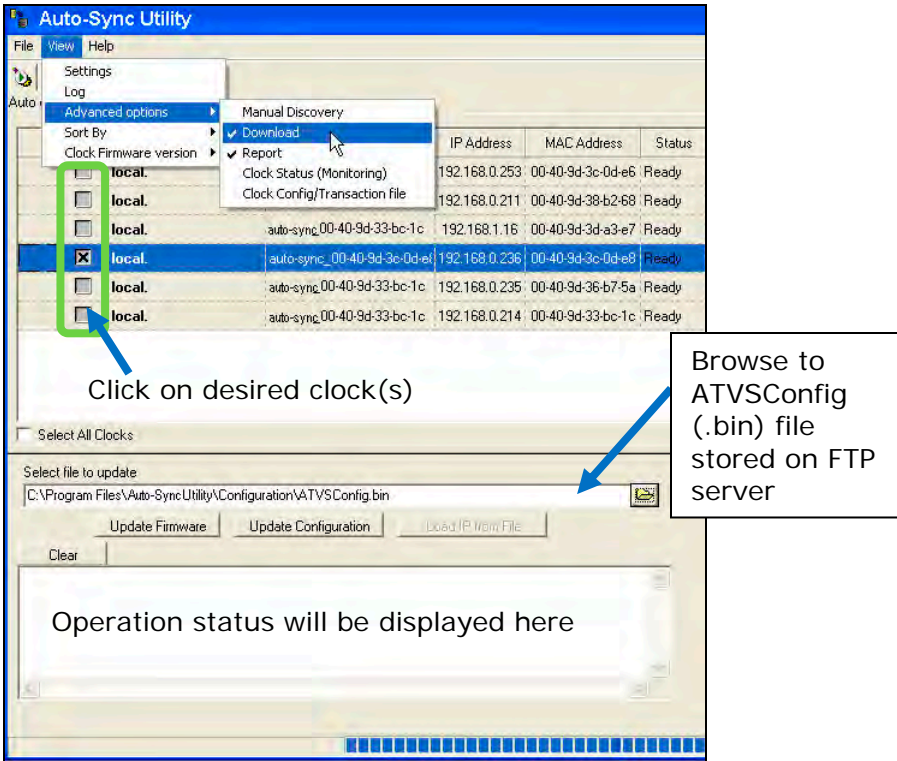

Figure 5-11. Auto Discovery Download.
1. Startup the Auto-Sync Utility. All of the discovered Auto-Sync Time Clocks will automatically appear in a list with the **Domain, Device Name, IP Address, MAC Address, and Status**. Select the desired Auto-Sync Time Clock(s) from the list by clicking in the "Select" column (see Figure 5-11). Click "Select All Clocks" to select/deselect all discovered clocks (this is the default).